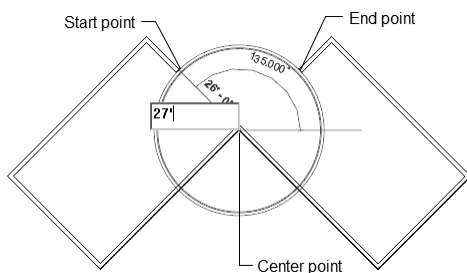

Figure 3-46 Starting the curved wall segment
- Use the **Center-ends Arc** sketching option to create the curved wall, refer to Figures 3-46 and 3-47.
1. Choose the **Center-ends Arc** tool in the **Draw** panel of the **Modify | Place Wall** tab. Move the cursor in the drawing window and click on the outer intersection of the inclined walls to specify the center of the curved wall, refer to Figure 3-46.
2. Move the cursor near the endpoint of the last sketched inclined wall segment. When 135-degree is displayed as the angular dimension, enter the value **27'** as the radius of the curved wall, as shown in Figure 3-46. On doing so, the curved wall with the specified radius starts from the specified point.